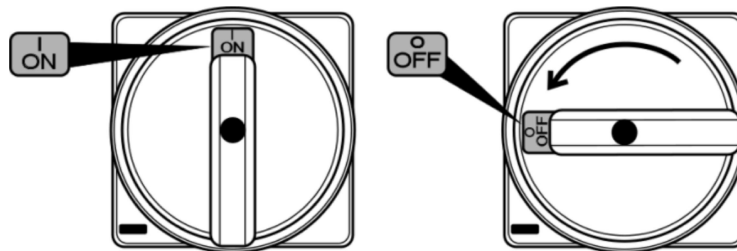

FIG. 6 MEAT SAW GENERAL INTERRUPTER
Another extra device is the General interrupter (42), when is in OFF position, de-energizes the complete equipment even though is connected to the main power source (See Fig. 6).